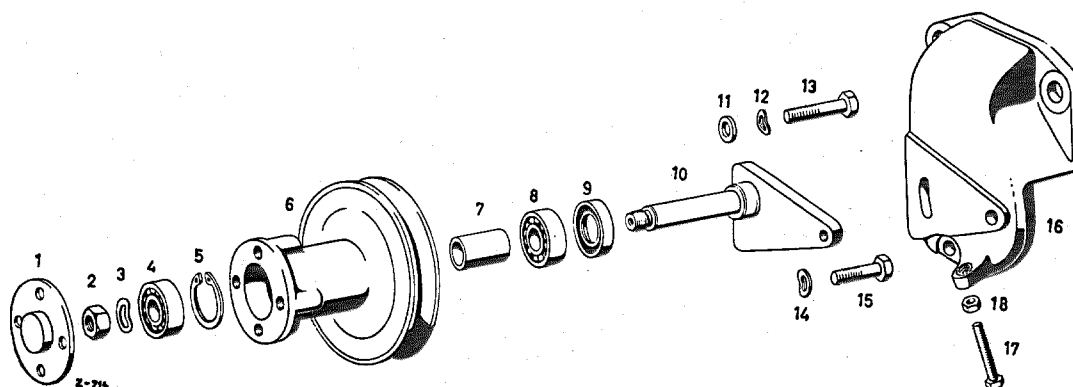

Figure 20-15/4
7. Force the annular grooved-bearing (8) and a new oil-seal ring (9) into the fan hub. Before this operation apply sealing compound to the circumference of the oil-seal ring which must be flush with the fan hub (see Figure 20-15/4).
8. Press in the fan bearing bracket (10).
9. Install the guard ring (5).
10. Slip the spacer (7) on the shaft and press in the annular grooved-bearing (4), so that it rests against the guard ring (5). The annular grooved-bearing (8), possibly pressed in too far, is positioned correctly by the spacer during this operation.
11. Screw on the nut (2) with the spring washer (3) and tighten.
12. Fill in 30 cm³ of oil of the SAE group 90 and press in the centering ring (1), so that the 4 holes of the ring coincide with the tapped holes for the fixing screws of the fan.